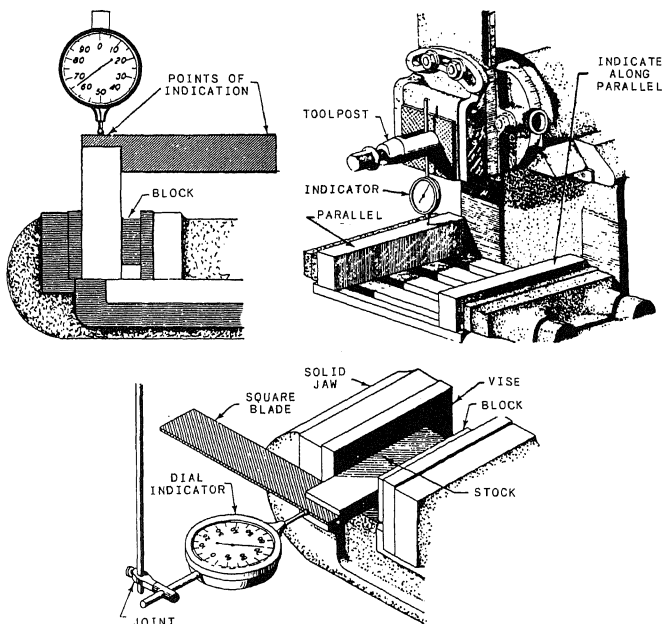

Figure 12-8.—Squaring the table and the vise.
- Test the table to see if it is level and square. Make these tests with a dial indicator and a machinist's square as shown in figure 12-8. If either the table or the vise is off parallel, check for dirt under the vise or improper adjustment of the table support bracket.